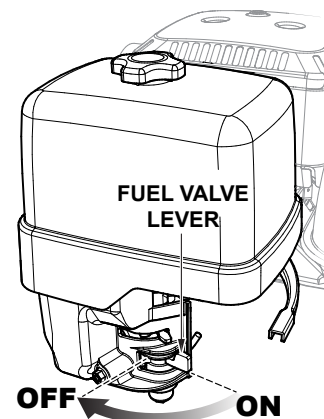

Figure 33. Fuel Valve Lever (OFF)
3. Place the fuel valve lever (Figure 33) in the **OFF** position.